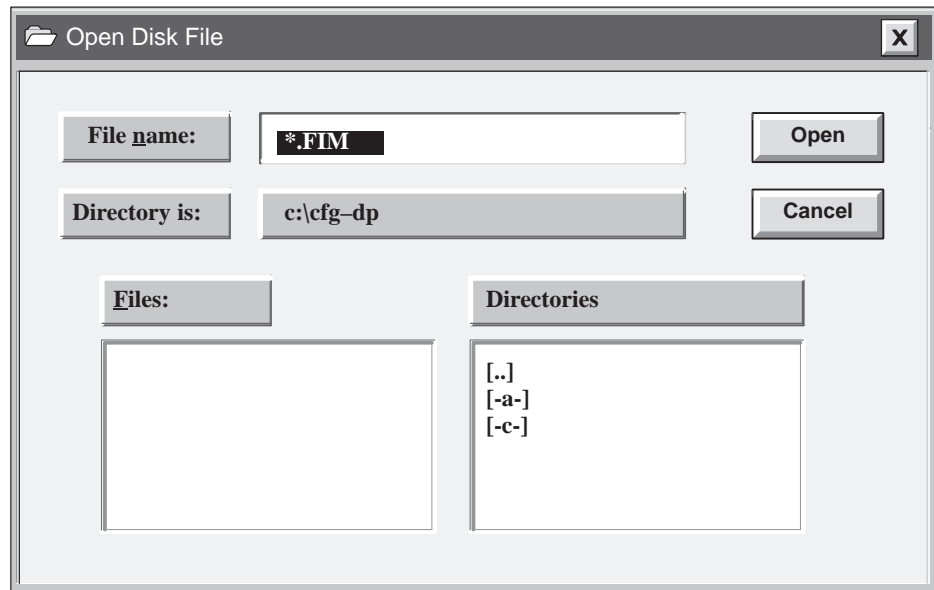

Figure 4-14 Open Disk File Dialog Box
**Open** Use this command to open an existing configuration file. The Configurator displays the Open Disk File dialog box (see Figure 4-14).
The Open Disk File dialog box shown in Figure 4-14 contains the following fields, which enable you to specify which file to open: